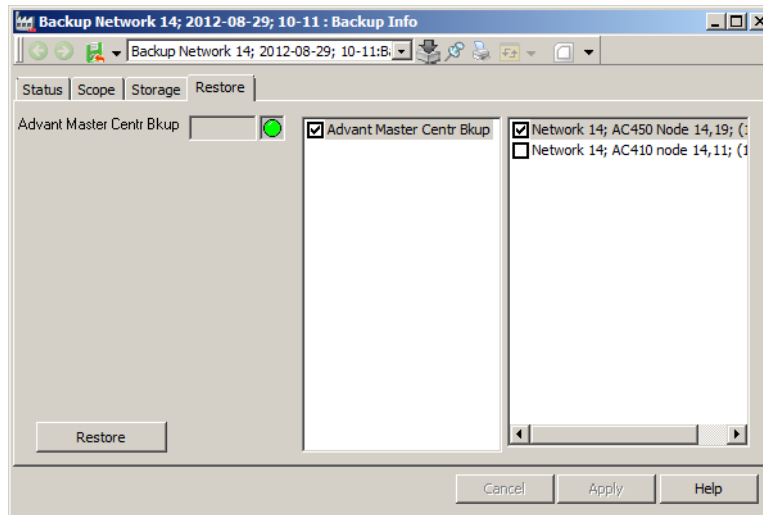

Figure 75. Backup Info aspect-Restore tab
3. Click **Apply** to save the changes. See Figure 75.